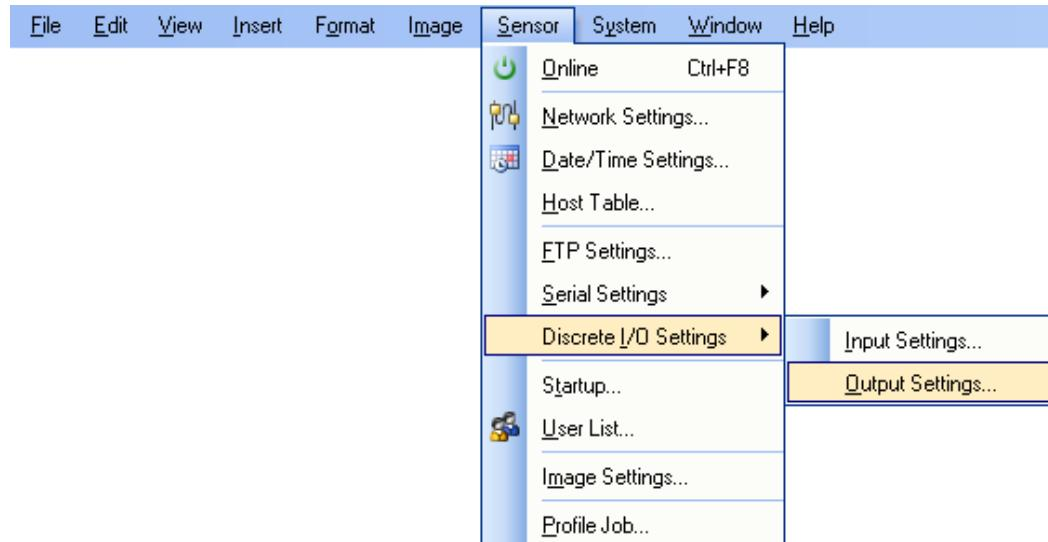

Figure B-1: Accessing the Discrete Output Settings
3. From the Sensor menu, select the Discrete I/O Settings submenu. Select the Output Settings option (Figure B-1).